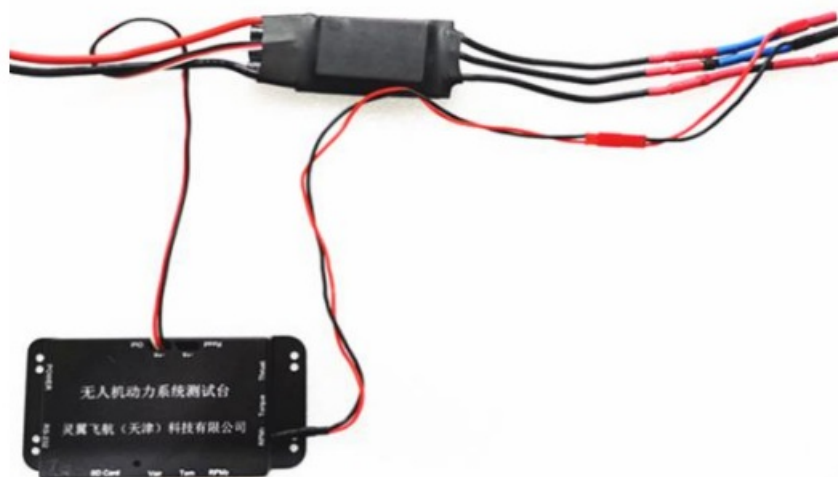

Fig. 2.2.3 Connection of signal cables
2. Connect JST Plug. The ESC signal cable connects to the “OUT” port on the control module, as shown in Fig. 2.2.3: